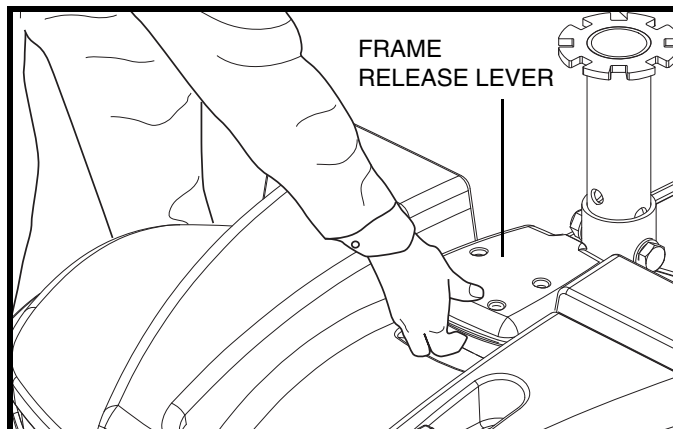

Figure 25. Frame Release Lever
3. Grasp and lift up on the frame release lever. **See figure 25.**
2. Use the frame release lever to lift the front section as you align the frame hooks of the front section with the lower frame tube of the rear section. **See figure 25.**